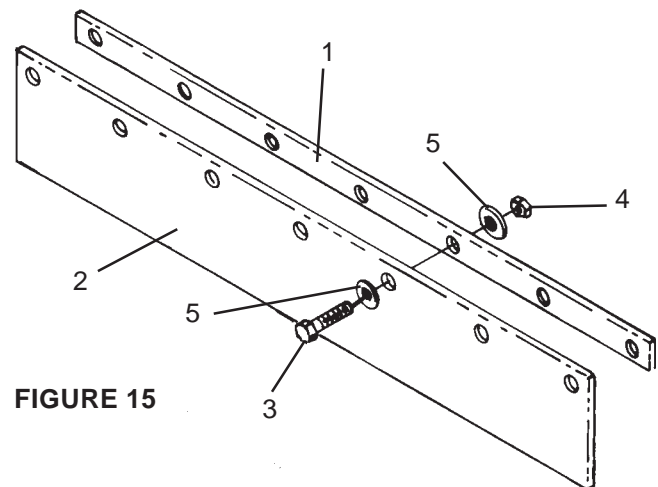

FIGURE 15
Attach Deflector (2) and Bar Strap (1) to rear center deck using 3/8" x 1-1/2" Bolts (3), Flatwashers (5), and Locknuts (4) as shown in **Figure 15**.